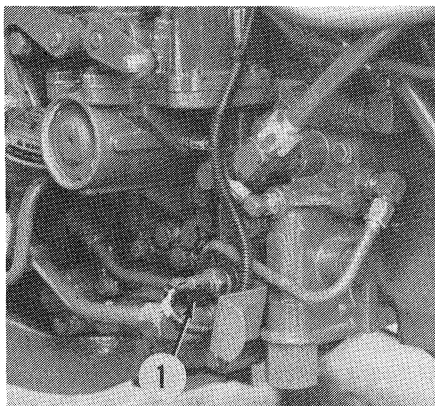

Fig. 96—Neutral start switch (1) is located on transmission control valve on tractors with Power Shift transmission.
90. NEUTRAL START SWITCH. All tractors are equipped with a neutral start switch which is designed to prevent operation of starter unless transmission is in "PARK." On models equipped with a Quad-Range transmission, the switch is located on right side of transmission housing to the rear of upper shifter shaft. On models equipped with a Power Shift transmission, the switch (1—Fig. 96) is mounted behind the switch shield on transmission control valve located on right side of transmission housing.